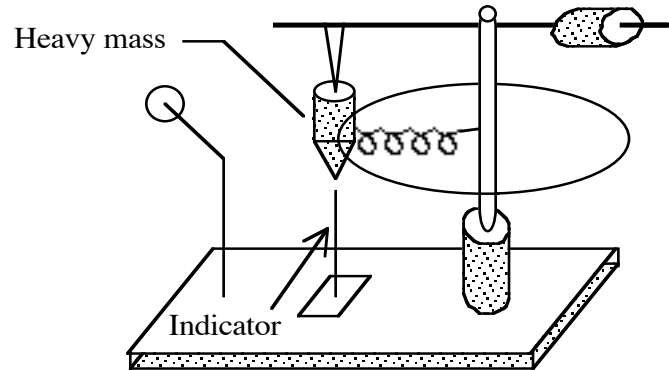

Fig. 2. Circular motion apparatus.
1. Detach the spring from the heavy mass (Fig. 2) allowing the mass to hang freely. Adjust the position of the cross-arm to the middle of its adjustable position. Clamp the cross-arm firmly.